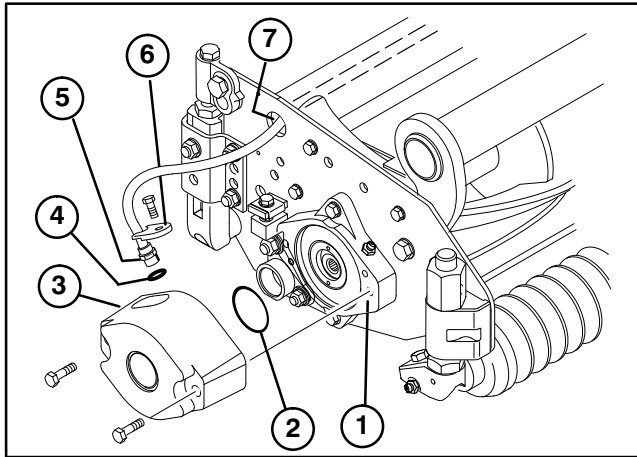

Figure 3
3. Lubricate and install a large O-ring into bearing housing groove on each end of cutting unit (Fig. 3 & 5).
4. Install a counter weight onto appropriate end of each cutting unit with capscrews provided (Fig. 3).
15. Install small O-ring onto speed sensor and insert sensor into hole in counterweight (Fig. 3).
16. Secure sensor to counterweight with a sensor holder and a M6 x 20 mm capscrew (Fig. 3).